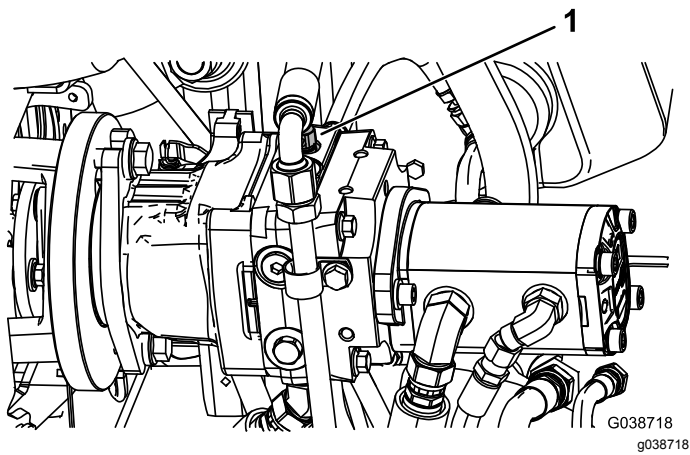

Figure 25
1. Locate the bypass valve on the pump and rotate it counter-clockwise 2 full turns (Figure 25).
2. Before starting the engine, close the bypass valve by rotating it clockwise 2 full turns (Figure 25).